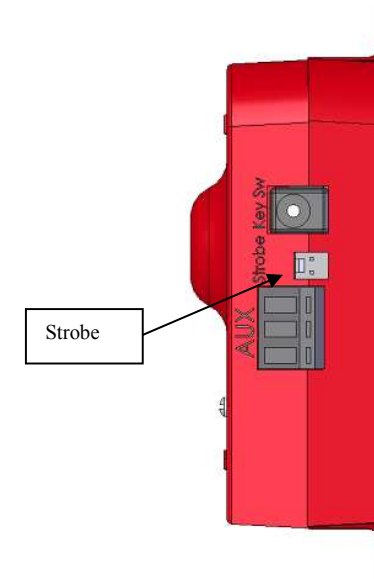

Figure 3-1
- 5) **CHECK CONNECTION ON STROBE (IF SO FITTED ) THAT IT IS PUSHED IN AND SECURE. PG. 6 SECTION 3, FIGURE 3-1.**
**IF THE ALARM SOUNDS AS SOON AS THE KEYED SWITCH IS TURNED TO THE (ON) POSITION WITH THE DOOR CLOSED. FIRST CHECK #3 FROM ABOVE LIST. ALSO CHECK TO SEE THAT THE RUBBER BUMPER IS MAKING CONTACT WITH THE MECH. SWITCH. (THE RUBBER BUMPER IS LOCATED ON THE INSIDE OF THE DOOR AND SHOULD BE CENTERED IN THE RECTANGLE WERE MECH. SWITCH MEETS THE DOOR IN THE CLOSED POSITION. )**
The strobe is used as a visual indication of the alarm being activated. The strobe is powered by the alarm and only requires to be connection to the right side of the alarm see figure 3-1. When the alarm is in the off position the strobe will still activate when the door is open. The strobe can be purchased at the same time as the alarm or added after.